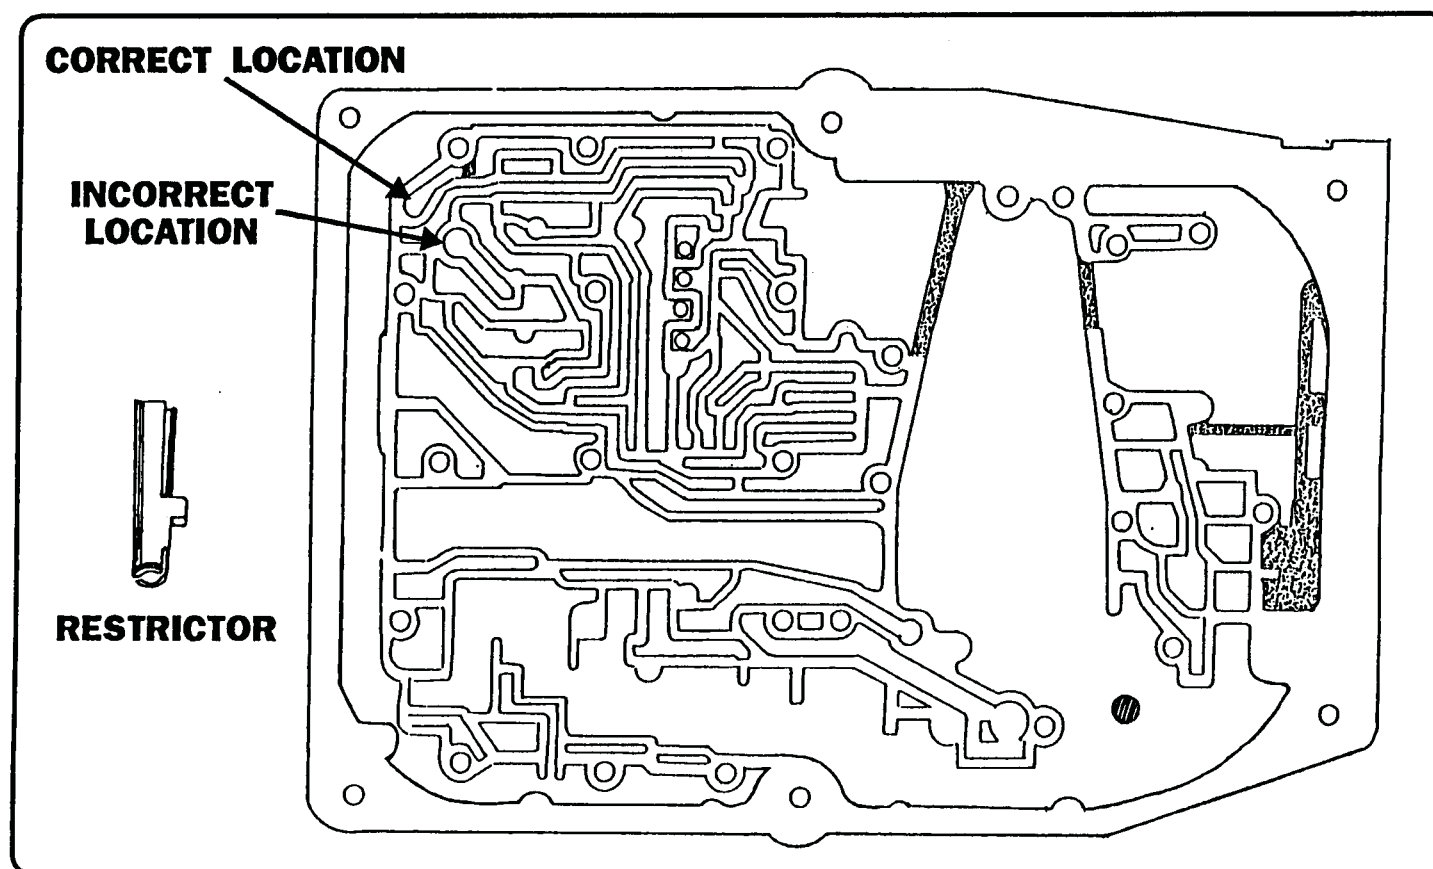

Figure 1
The TV valve line-up is different in the Mercedes models 420 SEL, 560 SEL and SL models. This change was made the the 1986 model year. Figure 1 illustrates the valve line-up.
**CORRECTION:**Make a 30 degree chamfer around the out diameter of the top (outside land) on the piston. The servo cover side, as shown in Figure 1.
**CORRECTION:** Install the Mercedes tapered oil restrictor Part no. 123 277 0319. into the transmission case as shown in Figure 1. Note that the restrictor goes in tapered end first and fits snug in the case.
- c. The gasket on the large intermediate plate shows severe swelling or a green slimy coating (upper right arrow in Figure 1).
- d. The intermediate plate shows signs of corrosion under the gasket (lower left arrow in Figure 1).
(Figure 1)
We have illustrated the separator plate ID in Figure 1 for both the regular 722.3 valve body and the 722.4 which is the 190E plate. You will note that the "regular" six bolt pan plate has a large opening where as the 190E opening is split. The arrows point to the locations on the plate. The regular plate (722.3) has a late and early version. The early will NOT fit the late valve body but the late will fit the early. Note the difference. The late has a square hole instead of the two orifices in the early. This is the position of the valve body screen.
**CORRECTION:** Replace ball valve, part #201 270 03 89, and install retaining washer (24), part number 000 463 008403 (Figure 1).
**CORRECTION:** *Replace steel disks K-1, bellville washer, and retaining ring (Figure 1).*